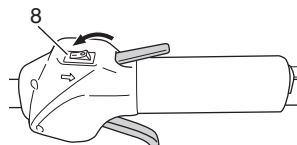

Fig. 8
(1) Set ignition switch (8) to ON position. (Fig. 8)